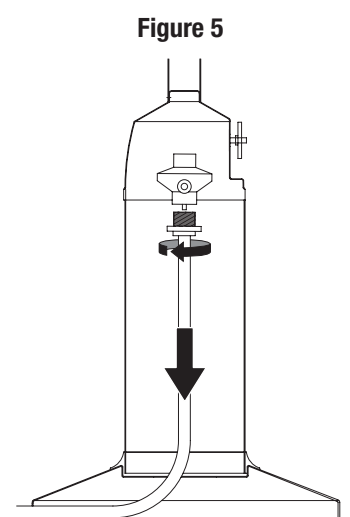

Figure 5
3. Disconnect gas line from regulator by turning flexible gas line counterclockwise until it is loose. (Figure 5)